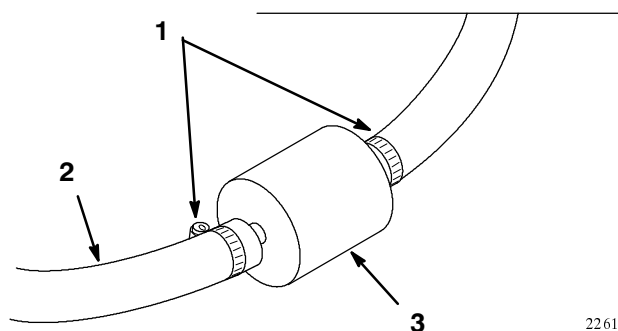

Figure 27
3. Loosen hose clamps and slide them up the hose, away from the filter (Fig. 27).
4. Remove the filter from the fuel lines (Fig. 27).